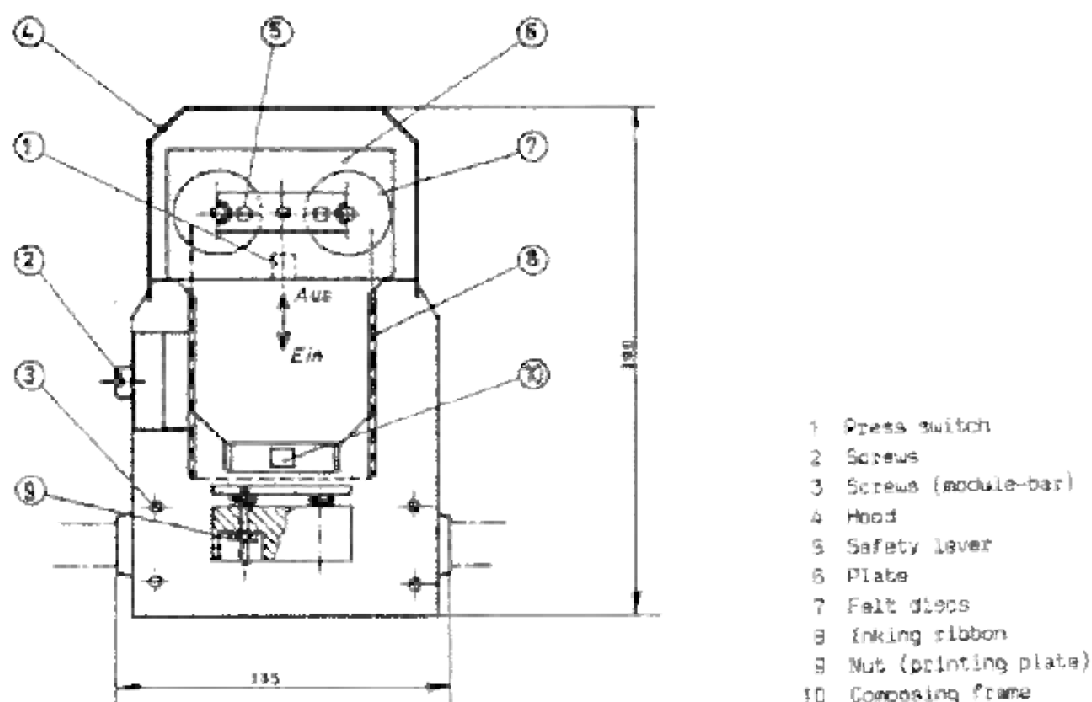

Fig. 8
To adjust the flat printer move it in longitudinal and crosswise direction by unscrewing the bolts (2) and (3) as shown in figure 8.
Backpressure and parallelism are factory-set on medium thick paper. For readjustment turn the corresponding nuts (9), refer to figure 8, with 7 mm socket spanner. Right way round → weaker, left way round → stronger print.